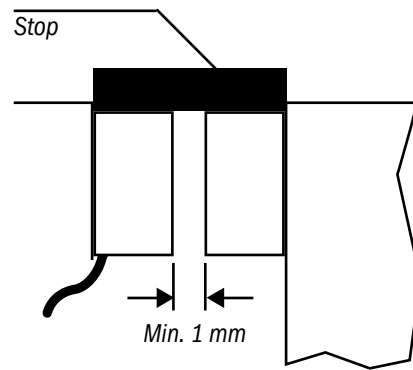

Figure 4: Mounting example for safety switch and actuator
- ▶ Fit safety switch and actuating element such that they do not touch each other: minimum distance between the front faces with the guard closed 1 mm (figure 4).
- ▶ Fit an additional stop and guide for the moving part of the protective device (figure 4).